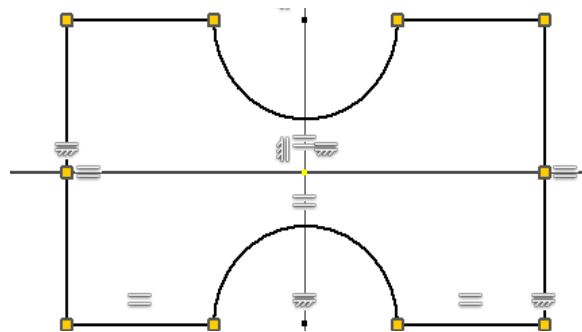

Figure 18-29 Sketch after adding required constraints
- Create the sketch and add required constraints to it, refer to Figure 18-29.
- Draw the sketch for the model by using the sketching tools. Add the required constraints to it. The sketch after adding the constraints is shown in Figure 18-29.